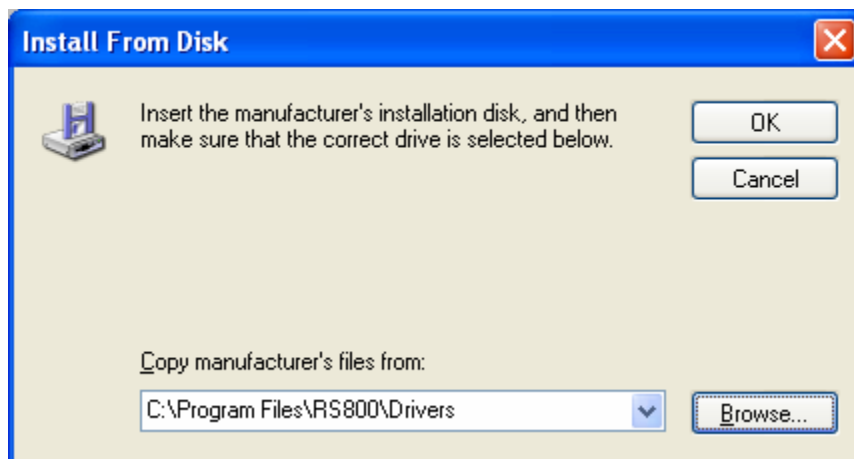

Fig. 07
Step 7: Browse to the “C:\Program Files\RS800\Drivers” directory and click on “OK”. Proceed by clicking on “Next”. (Fig. 07)